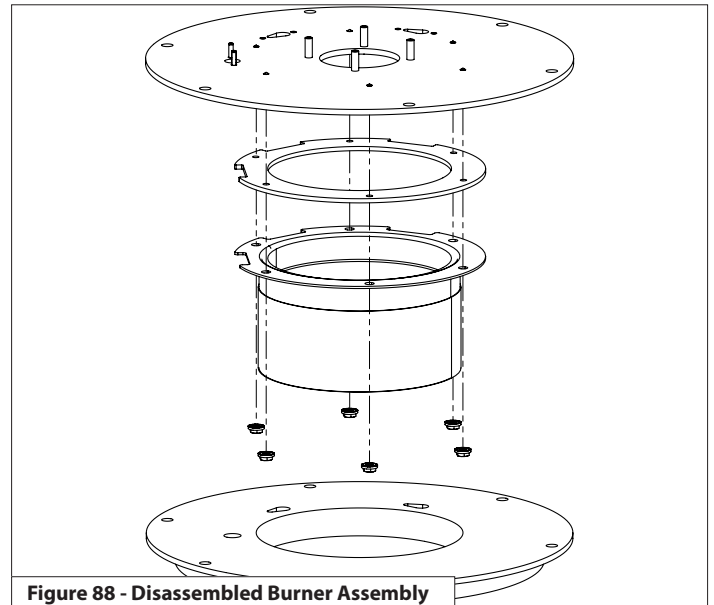

Figure 88 - Disassembled Burner Assembly
- Reassemble the burner assembly. Ensure the components are installed as described in Figure 88.